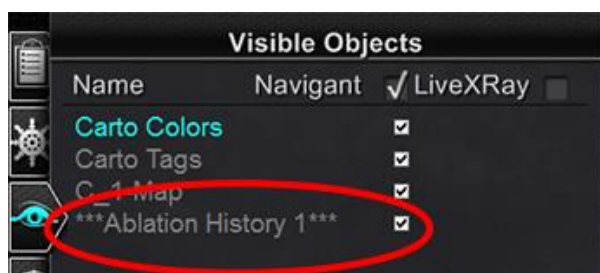

Figure 136. Visible Objects panel- Ablation History viewing enabled
- The *Navigant* Visible Objects control panel displays **Ablation History 1** (**Figure 136**) after the first ablation is performed post registration. Checking and unchecking Ablation History boxes displays or hides the display of Ablation Histories.